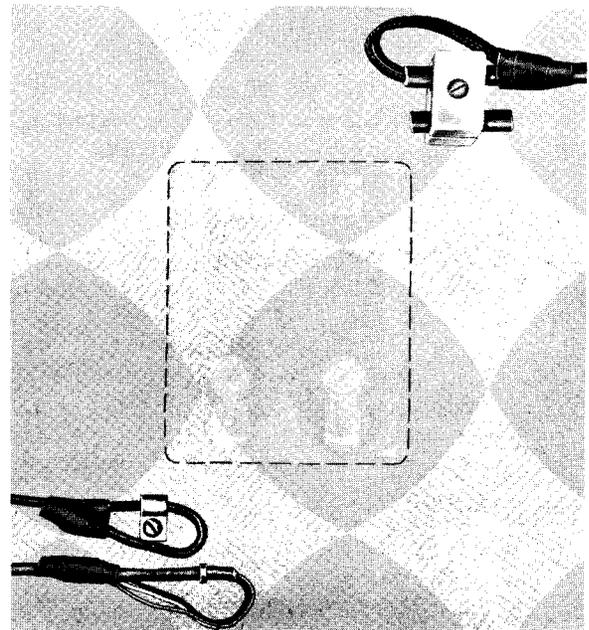

Fig. 15 — Disposition of Wiring When Removing Protector
- When removing protector, turn back and securely fasten inside and ground wires, and remove line wire (see Fig. 15).